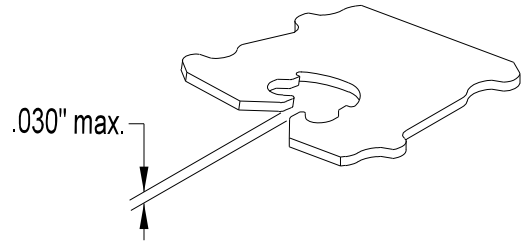

Figure 5.12
4. Check the "lok cam" dimension. This is preset by design but can be incorrect if the film guide has been bent. Re-bend the part until the desired "lok cam" is achieved. It is recommended the closure cam be set at  $.030''$  (0.8mm) maximum (Figures 5.12 and 5.13).